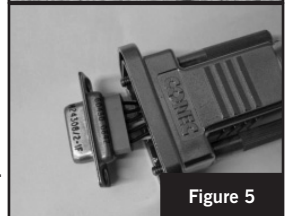

Figure 5
8. Insert D-sub connector into the waterproof hood. (See figure 5) To ease assembly, be sure to unscrew the D-SUB waterproof hood adaptor to allow the shield to exit the bottom.